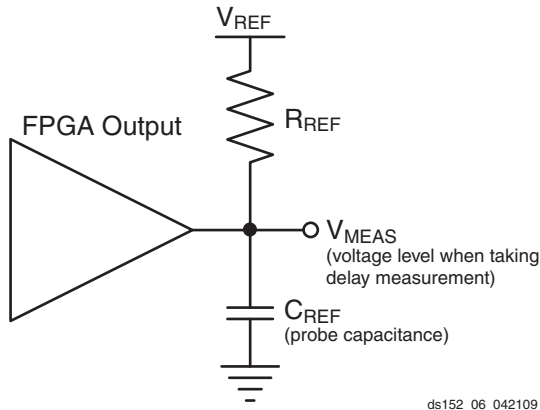
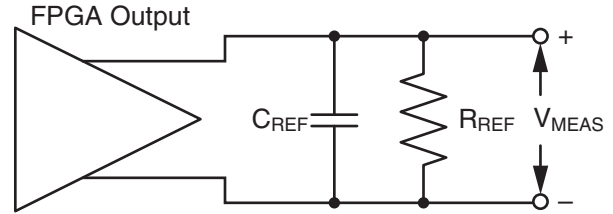

Figure 14: Single Ended Test Setup
Figure 15: Differential Test Setup
- This is an input voltage reference that bears no relation to the V_{REF} / V_{MEAS} parameters found in IBIS models and/or noted in Figure 14.
Output delays are measured using a Tektronix P6245 TDS500/600 probe (< 1 pF) across approximately 4" of FR4 microstrip trace. Standard termination was used for all testing. The propagation delay of the 4" trace is characterized separately and subtracted from the final measurement, and is therefore not included in the generalized test setups shown in Figure 14 and Figure 15.